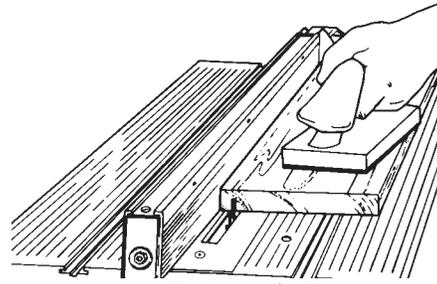

Figure A-5
- Use the push block to hold down and guide stock over 5" wide. As you press down, forward, and to the side, the rubber pad grips the wood. The handle is tilted to help keep your hands away from the blade, cutter or disc, as illustrated in Figure A-5.